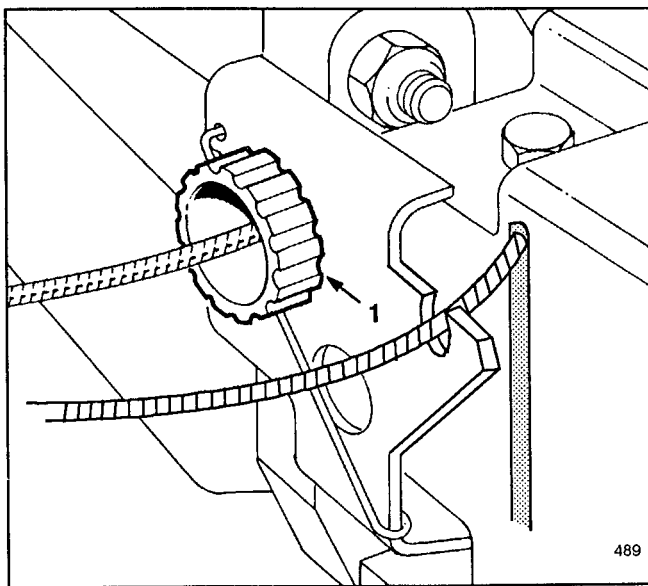

Figure 22
2. **ADJUSTMENT** (Fig. 22) – Rotate control knob clockwise 1/2 turn if mower does not self-propel. If mower creeps forward, rotate knob 1/2 turn counter-clockwise to loosen belt.